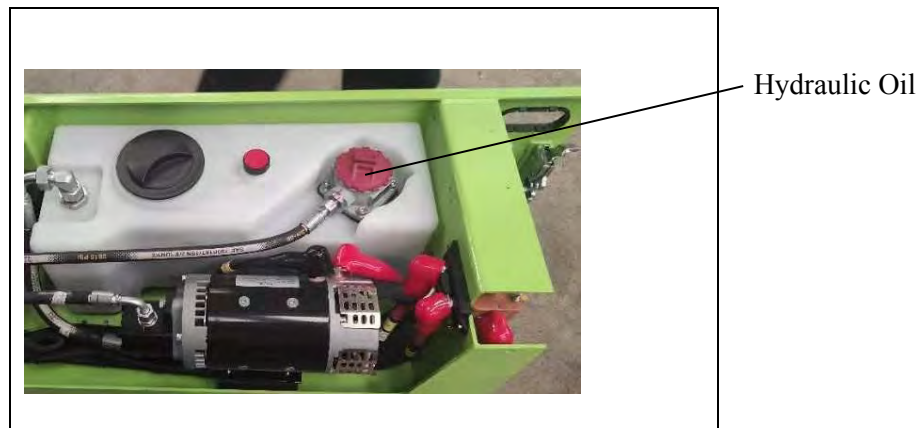

Figure 4-1 Filter position
- b) Remove the screw of the oil return filter, remove the oil return filter and replace the filter element. (as shown in Figure 4-1).